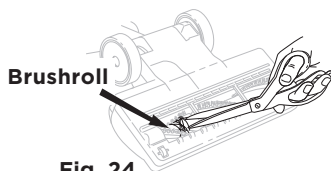

Fig. 24
- 2 Inspect the airway and the brushroll. Remove any debris buildup. With scissors, carefully cut away any fibers or hair wrapped around the brushroll. Avoid damaging or cutting the bristles. (Fig. 24)